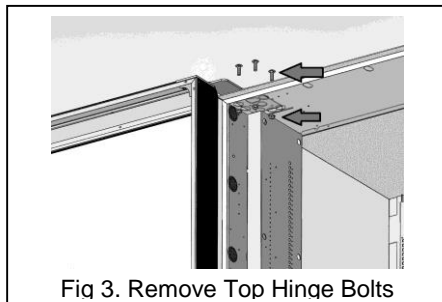

Fig 3. Remove Top Hinge Bolts
First mark an outline around the top hinge plate with a pencil to be sure the hinge is set back into the same position. Open the door at least 90 degrees and remove the (3) Carriage Bolts by undoing the nuts with a deep 1/2" socket, these fasten the top hinge plate to the cabinet top as shown in Fig 3.